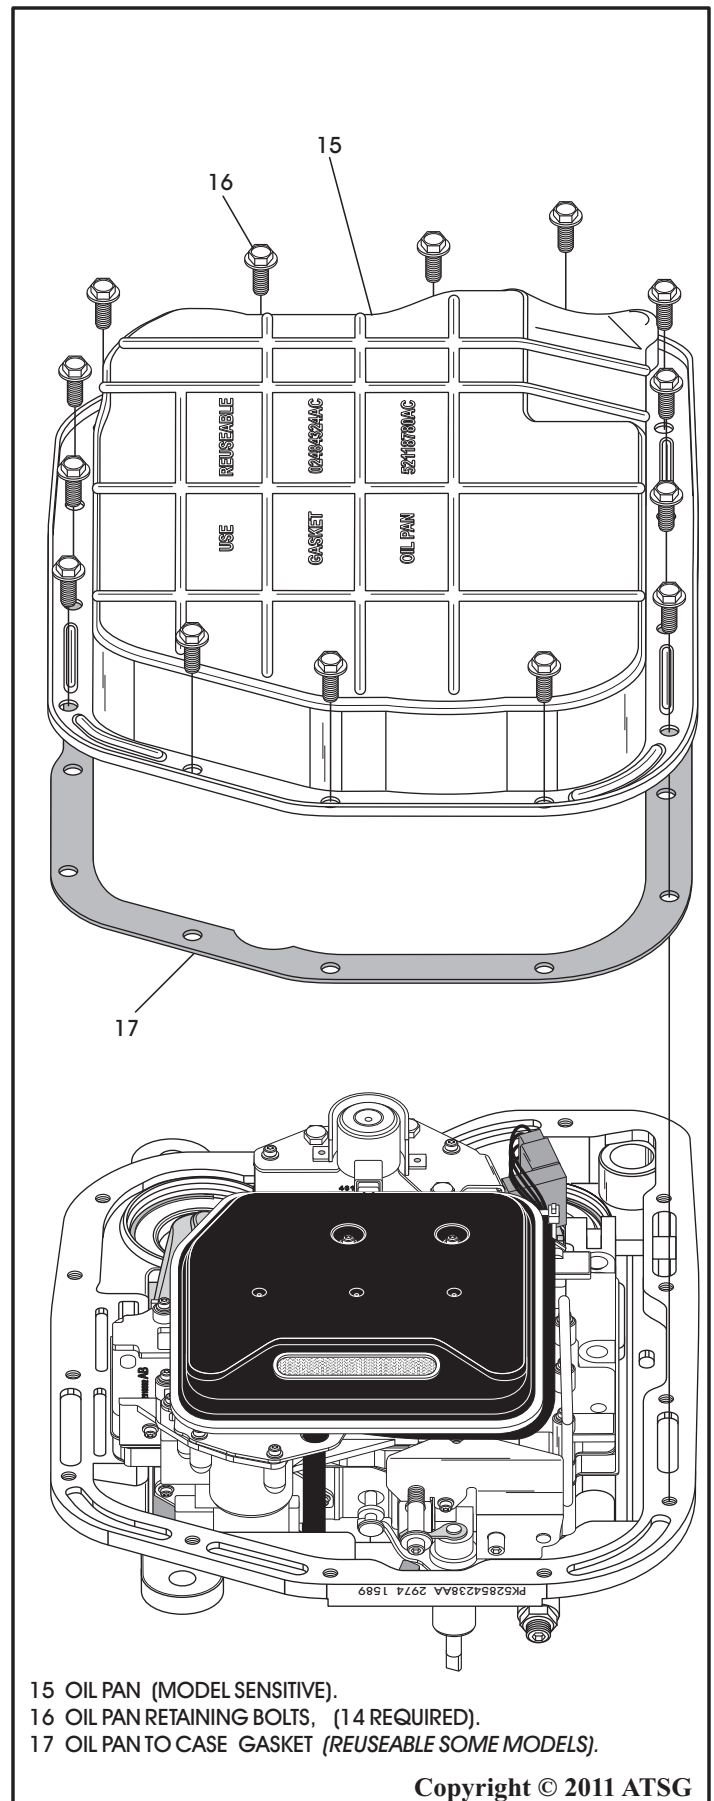

Figure 229
39. Install new oil pan gasket onto case, as shown in Figure 229.
40. Ensure the oil pan magnet is in place and install the oil pan, as shown in Figure 229.
41. Install the fourteen oil pan bolts, as shown in Figure 229, and torque to 13.6 N·m (120 in.lb.).